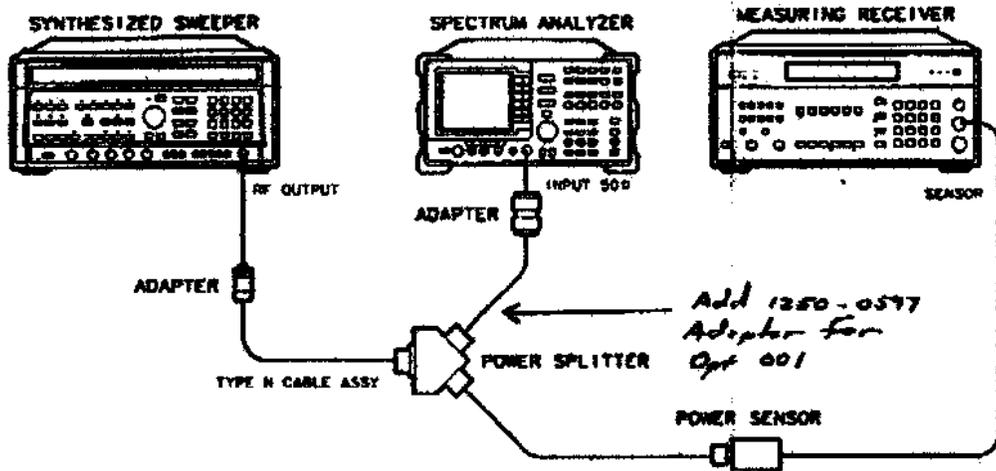

Figure 2-24. Frequency Response Setup
2. Connect the equipment as shown in Figure 2-24.